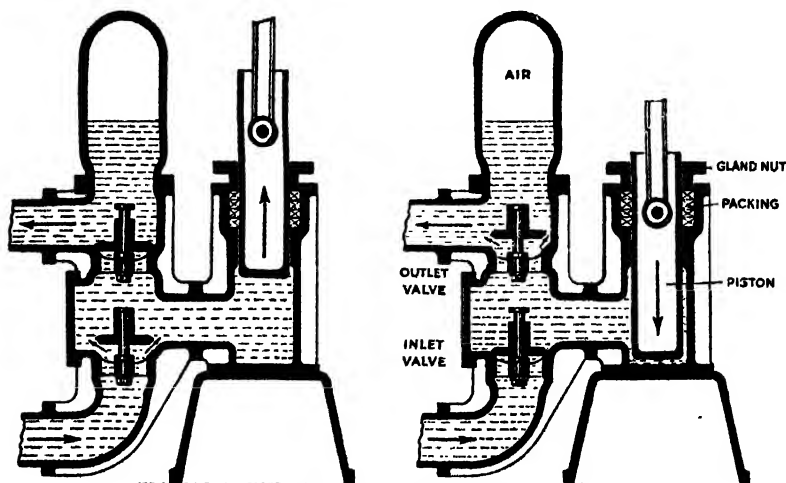
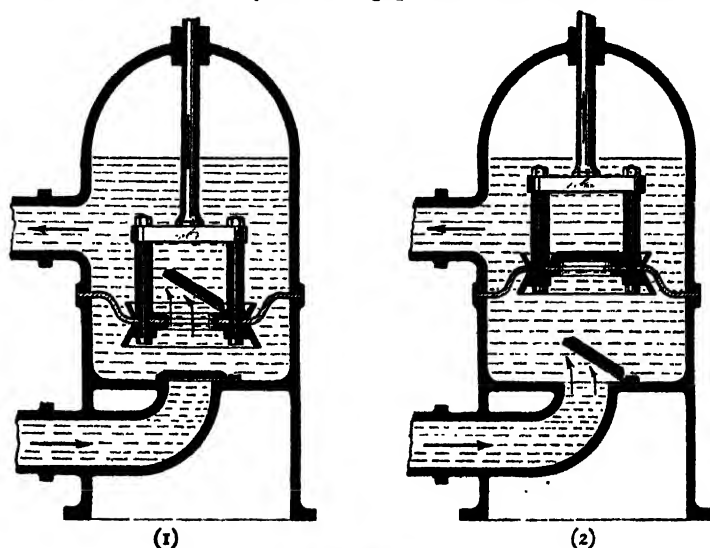

FIG. 103.—A force pump.
FIG. 104.—The diaphragm pump.
in one direction but not in the other. Figs. 103, 104 show two kinds of valves. Those in Fig. 103 are poppet valves, those in Fig. 104 are flap valves.
The simplest of pumps is the force pump, and Fig. 103 shows
piston (Fig. 82). It operates on exactly the same principle as the diaphragm pump (Fig. 104) which is a lift-pump with a leather disc instead of a piston. When the disc is raised (2) water enters; when it is forced down (1) the water opens the valve in the diaphragm and passes to the other side. On the third stroke (2) the water is lifted out by the exit pipe and new water enters from
Pumps for handling gases are very much like those used for handling liquids. The ordinary pump used to compress air or exhaust air is a force-pump—in principle just like the force-pump in Fig. 103. The ordinary bicycle-pump is different from other pumps in having the piston and inlet valve in one. The piston is a cup-shaped piece of leather. When the handle is drawn up, air enters between the piston and wall: when it is forced down the air pressure forces the leather against the wall and makes the piston airtight. Consequently the air forces the outlet valve (in the tyre) open and the air enters the tube.